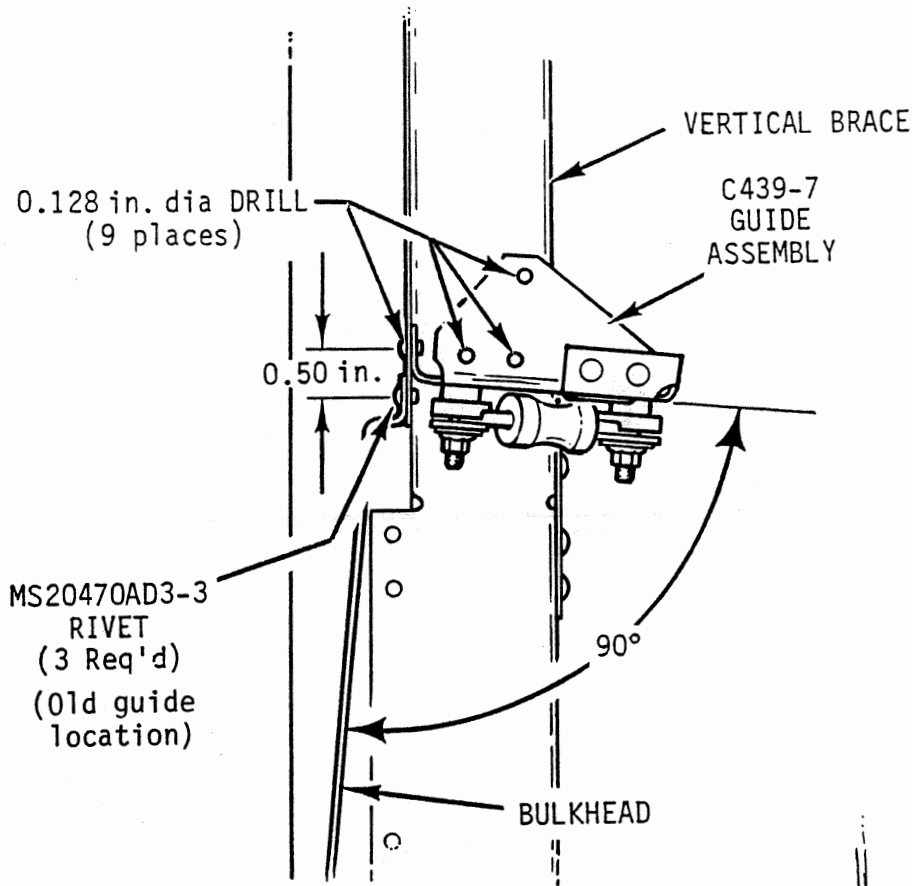

FIGURE 1
- 2) Remove main and auxiliary fuel tanks per section 12.110 and 12.140 of R44 Maintenance Manual (MM). Support middle mast fairing rib to avoid damage to aft push-pull tube at guide when moving controls. Remove vertical and horizontal panels between rear seats and remove rear belly panel. Peel back interior foam on vertical bulkhead for access to rivets attaching push-pull tube guide. (Use putty knife or razor blade to reduce tearing of foam.)
- 4) Remove rivets attaching push-pull tube guide to bulkhead and braces. Avoid kinking pitot line by sliding guide up to remove. To locate new guide, draw a line on bulkhead 0.50 inch above three rivet holes as shown in Figure 1. Position new guide with line on bulkhead centered on holes in guide flange and match drill three 0.128 inch diameter holes through bulkhead. Attach new guide using temporary fasteners.
- 5) Set guide at a 90 degree angle to bulkhead below guide (see figure 1). Using pilot holes in guide, match drill six 0.128 inch diameter holes through vertical braces. Remove guide assembly and de-burr holes. Rivet bulkhead three places at old guide location using supplied rivets. Insert pitot line through grommet in guide and rivet guide assembly to bulkhead and vertical braces using supplied rivets (9 places).